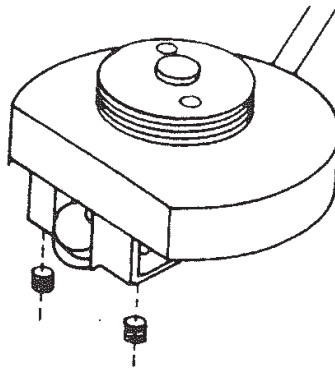

Figure 5. Coaxial Cable Insertion
1. Trunk lid mount may be placed at the center of trunk lid near the rear window, or to the side, preventing the antenna from hitting the rear window when raising the trunk lid. Be sure the coaxial cable is not pinched under the mount clamp bracket. Refer to Figure 5.